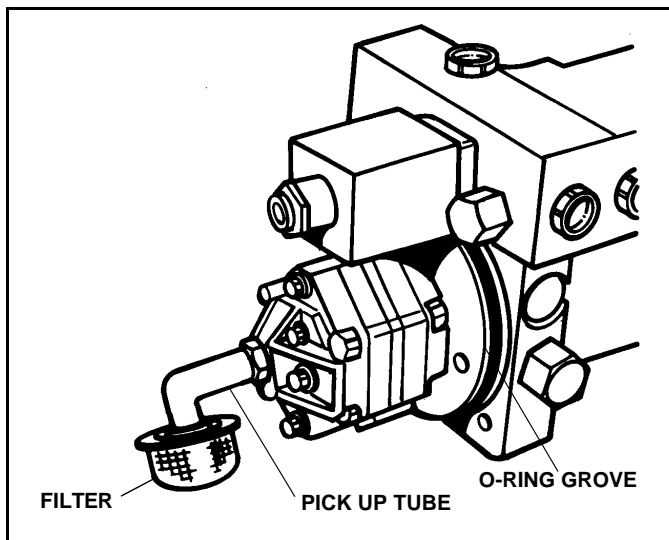

Figure 2-4
13. Visually check that the pickup tube and filter face down (See Figure 2-4) if not, loosen the nylon jam nut at the pump body, rotate the pickup tube and tighten the jam nut until snug.